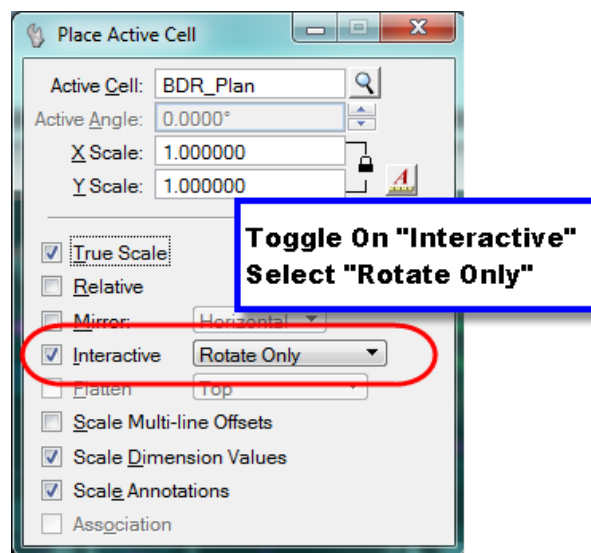

Figure 45 - Place Plan Border
3. Select/Click on the **Plan Border** task ⇒ the **Place Active Cell** command with the **Active Cell: BDR\_Plan** is activated (Figure 45). Place the plan border cell in your plan sheet model where you want it. Follow the command prompts, bottom left in **MicroStation** view.